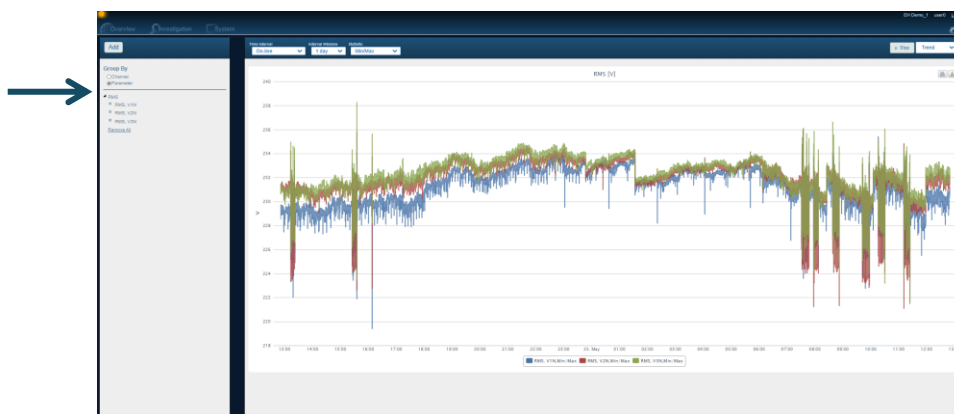

Figure 5-16: Investigate Trends – 2
- 2 If no parameters were added previously, use the **Add** button on the upper-left side to add the parameters to be displayed as a trend, as described on page 103. After you add them, the parameters appear listed in the left pane of the Investigation window, as shown below (Figure 5-16).